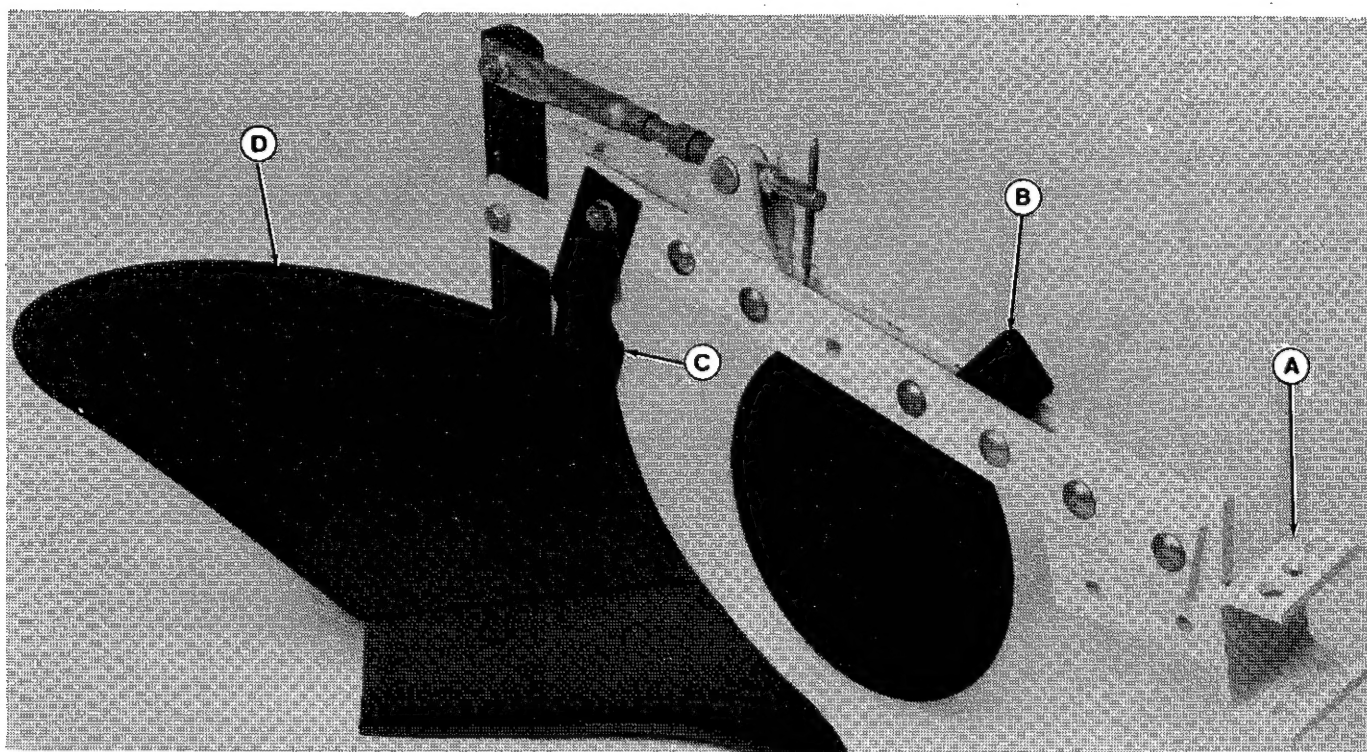

Figure 4. Plow
3. Use 1/2-13 x 2" carriage bolts, 1/2" lockwashers and 1/2-13" flange nuts to attach the plow, coulter blade and deflector blade (C, figure 4) to the tool bar as shown in figure 4, but do not tighten hardware. Install the yoke in the tool bar AS SHOWN - the yoke is also specially stamped "UP - PLOW ONLY" for ease of identification.